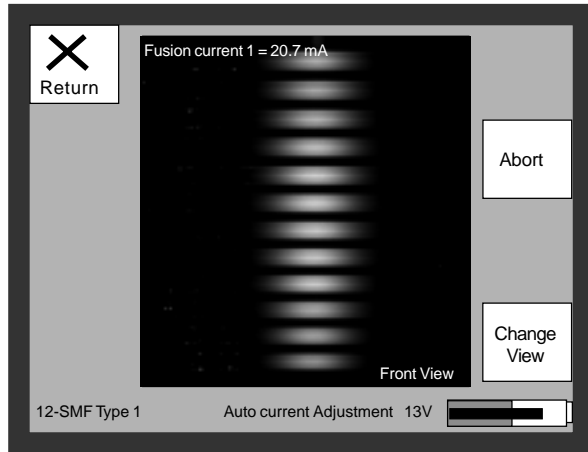

Fig. 65 - Hot image of fibres showing fusion current
- 7. A hot image of the fibres is presented on the monitor (fig. 65).